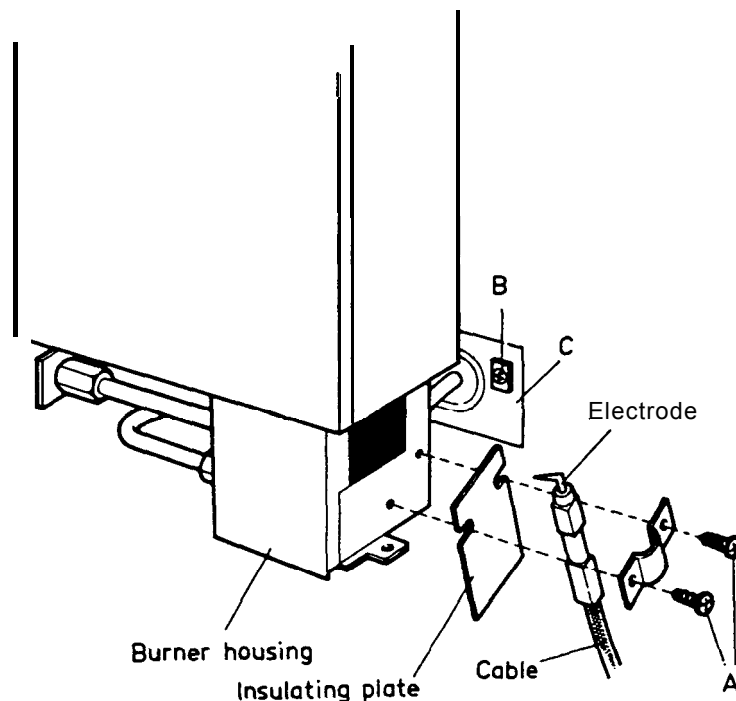

Fig. 78
2. **Loosen** fastening screw "A" (Fig. 78) holding the electrode against side of burner housing.
**CAUTION:** When fastening the electrode on the burner housing make sure that the insulation plate is properly fitted between the burner housing and the electrode (see fig. 78).
3. Loosen the fastening screw "A" (Fig. 78) holding the electrode against side of burner housing.